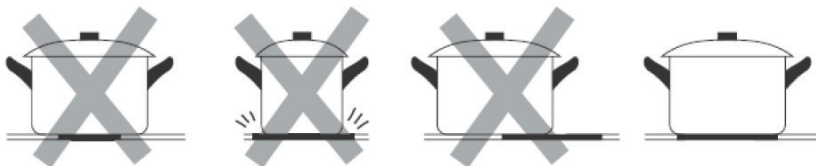

Fig. 2
- For each cooking zone, use the correct cookware size. The diameter of the cookware bottom should correspond to the size of the cooking zone (Fig. 2).